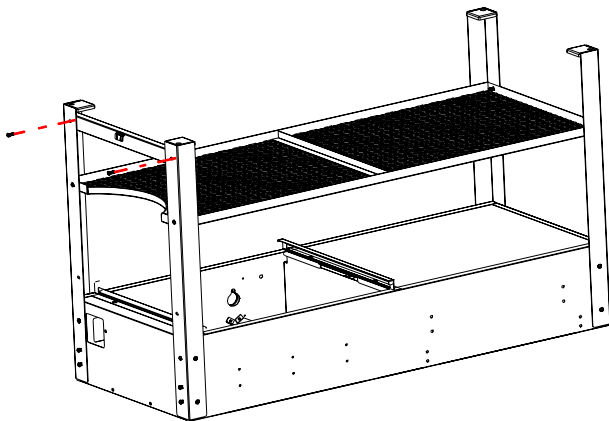

Fig. 4
Refer to Fig. 4 and attach the Support Brace to the **INSIDE** of the Left Side Front and Rear Legs using (1) M6x15 bolt at each end of the Brace.